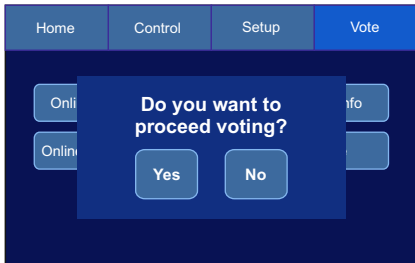

Figure 4.53 Start Voting
- Upon pressing the "Vote" button, the system displays a prompt reading **"Do you want to proceed voting?"** along with "Yes" and "No" buttons. (See Figure 4.53)